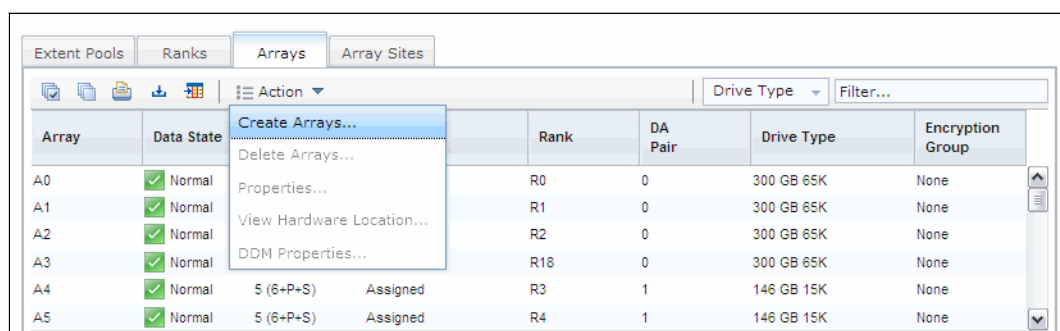

Figure 13-20 Select Create Arrays
- After we identify the unassigned and available storage, we can create an array. Click the **Array** tab in the Manage Disk Configuration section and select **Create Arrays** in the **Action** drop-down menu as shown in Figure 13-20.